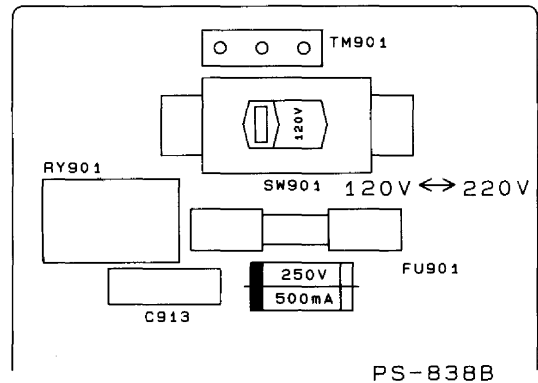

Fig.2
- Locate Power Supply P.C.Board on the left side of the front panel(See Fig.2 ).